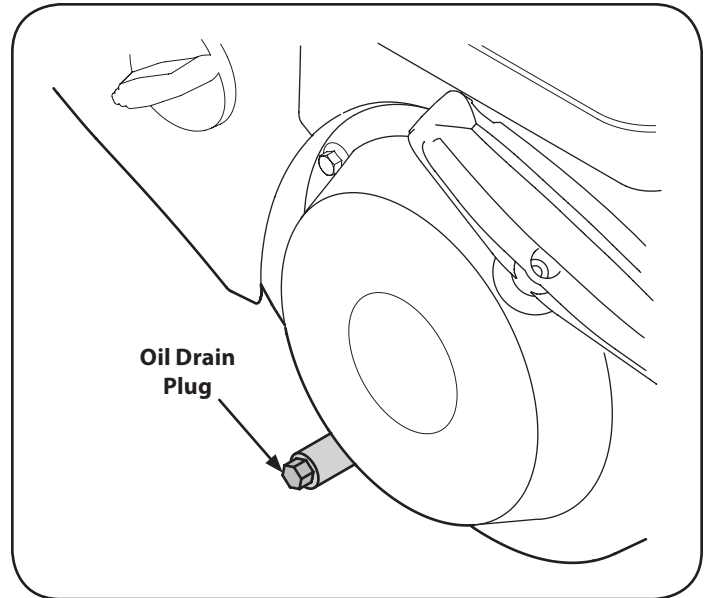

Figure 22
3. Remove oil drain plug. See Figure 22 on next page.